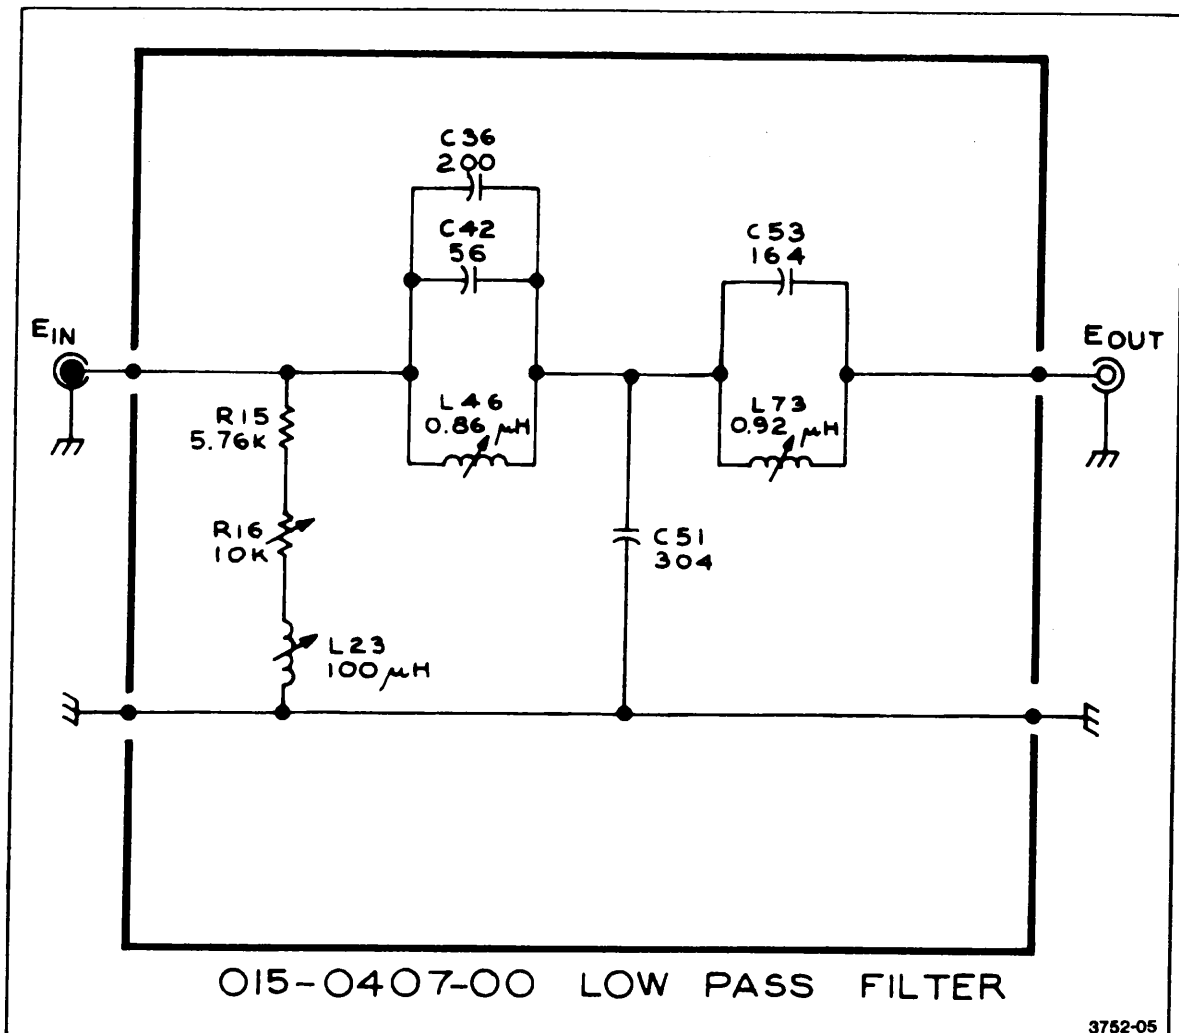

Figure 5. Schematic Diagram.
3. Use the schematic diagram (Figure 5) as an aid in isolating the fault.